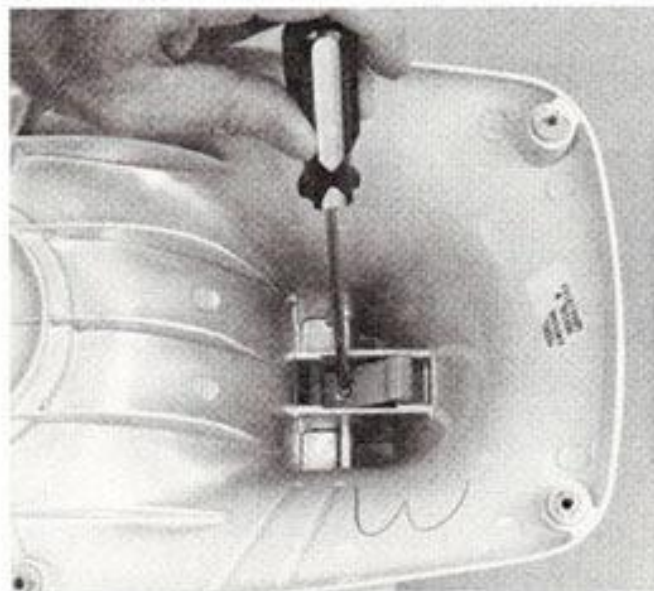
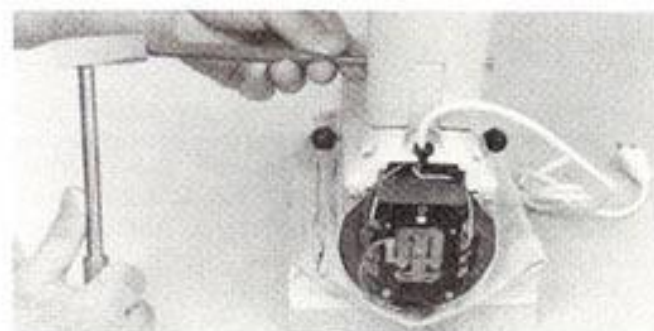

Fig. 7
Fig. 8
- F. If necessary to remove the pedestal from the gear case bottom cover, loosen the setscrew with a screwdriver (Fig. 7). With a drift punch and hammer, drive out the hinge pin (Fig. 8) and lift the pedestal off the gear case bottom cover.